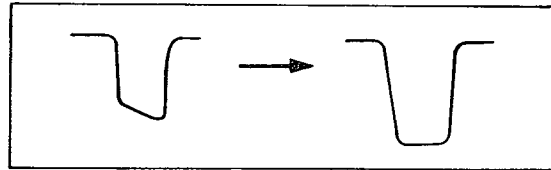
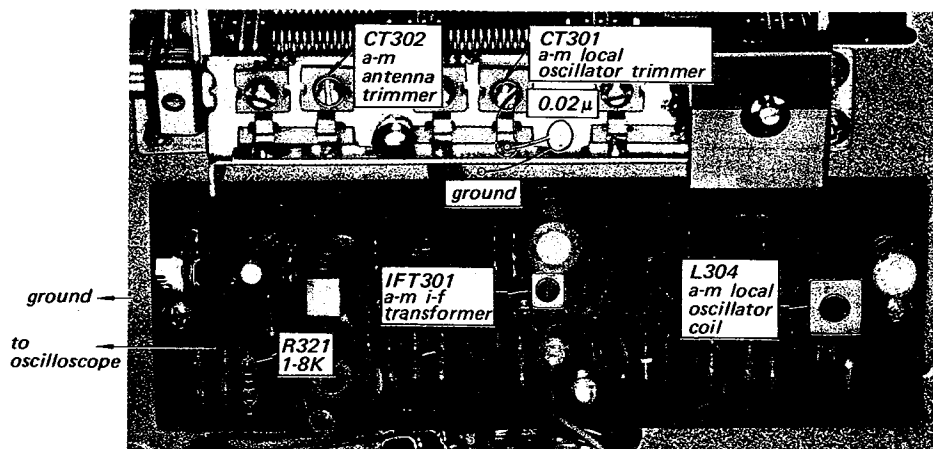
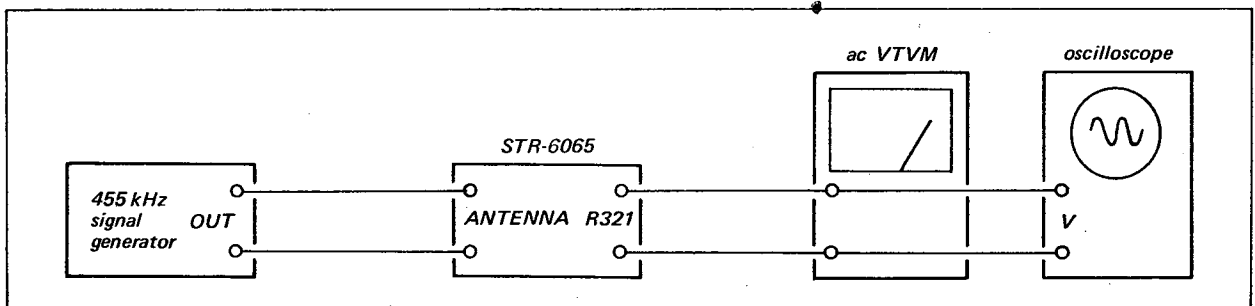

Fig. 3-11. A-m i-f strip alignment by sweep generator
Fig. 3-10. Disabling the a-m local oscillator, a-m detector output connection and parts location
Fig. 3-13. A-m i-f strip alignment by rf generator
Note: To perform this alignment, the local oscillator should be killed. To do this, shunt the local oscillator capacitor with a 0.02- μ F capacitor as shown in Fig. 3-10.
2. Connect the input cable of the oscilloscope to R321 (see Fig. 3-10) and ground on the a-m cp i-f board with alligator clips as shown in Fig. 3-10.
5. Turn the top core of IFT301 (see Fig. 3-10) to obtain a maximum and symmetrical response as shown in Fig. 3-11.
3. With the equipment connected as shown in Fig. 3-13, turn the top core of IFT301 (see Fig. 3-10) to obtain maximum output.
dial calibration error exceeds this limit, turn the local oscillator-coil L304 (see Fig. 3-10) slightly until optimum dial calibration is obtained.
2. Tune the receiver to the highest-frequency station in your locality. If the dial calibration error exceeds ± 30 kHz from the carrier frequency, adjust local-oscillator trimmer-capacitor CT301 (see Fig. 3-10) to obtain maximum calibration accuracy. Repeat the above steps two or three times.
2. Tune the set to the station whose carrier frequency is closest to 1,400 kHz and adjust antenna trimmer CT302 to obtain maximum output. See Fig. 3-10.